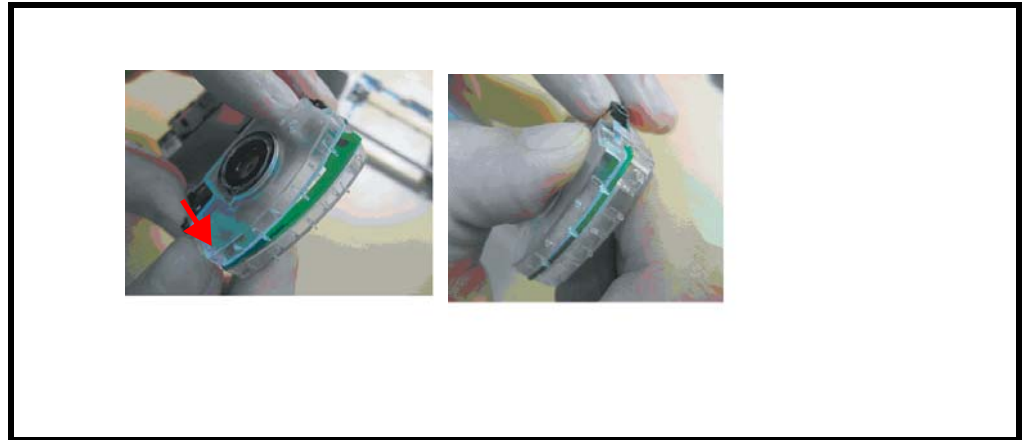

Figure 20. Replacing the Speaker Box
3. Pick one side of Speaker box hook into Main PCBA as shown in Figure 20.